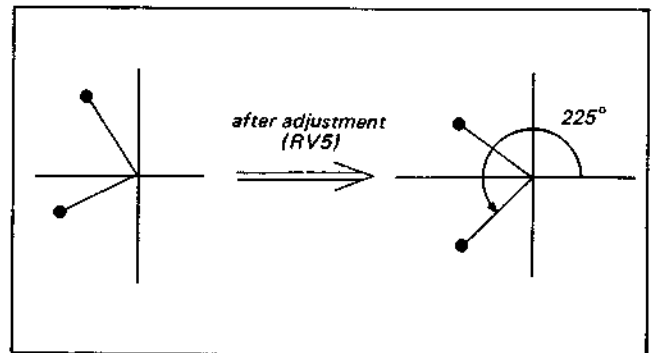

Fig. 4-4-5. Phase adjustment of sub-burst signal
- (3) Connect the vectorscope to pin 1 of IC5.
- (4) Adjust RV5 so that the advanced phase of the burst signal becomes 225°. (See Fig. 4-4-5.)